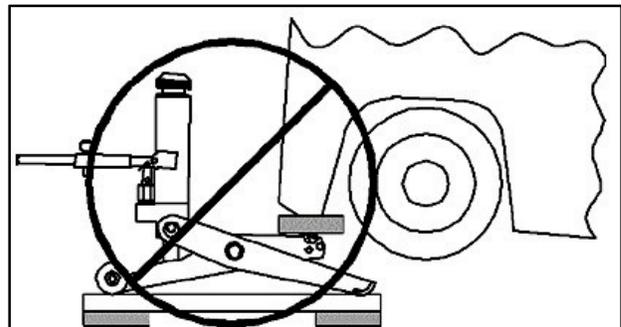

Fig. 7: Never increase lifting height
- The serrated lift pad or lift arm notch must be in direct contact with the forklift (see Fig. 7)
- ⚠ Never increase the lifting height of the jack by putting wood, pads, cinder blocks, or any other objects above the lift pad or underneath the front footpad and/or wheels (Fig. 7).